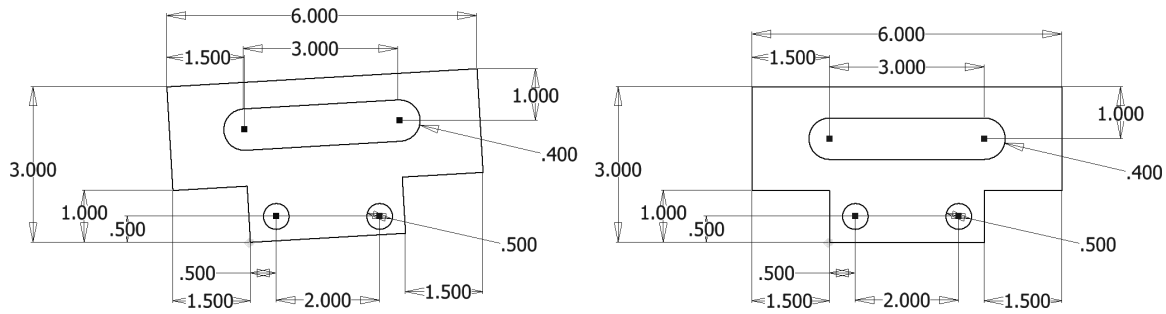

Figure 2.95 Figure 295
- 19 Drag the top-right endpoint of the upper horizontal line up. The sketch will be rotated slightly as shown in Figure 2.95 left.
- 20 Apply a horizontal constraint to the lower horizontal line, and this will fully constrain the sketch as shown in Figure 2.95 right. Reposition the dimensions as needed.